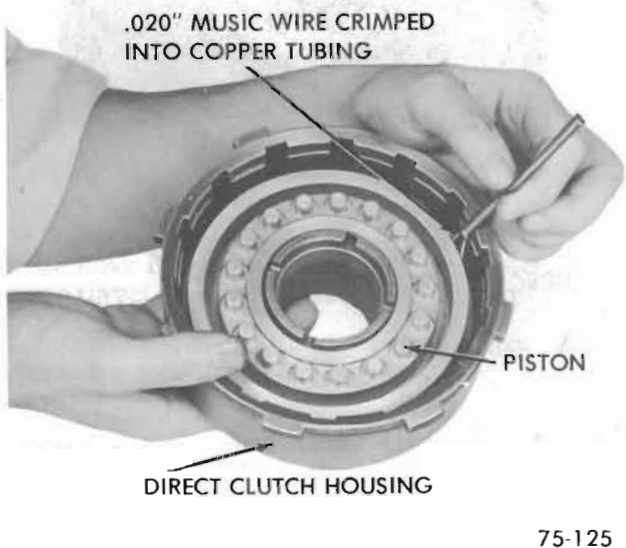

Figure 75-174
3. Install the direct clutch piston into housing with the aid of a piece of .020" music wire crimped into copper tubing. See Figure 75-174.